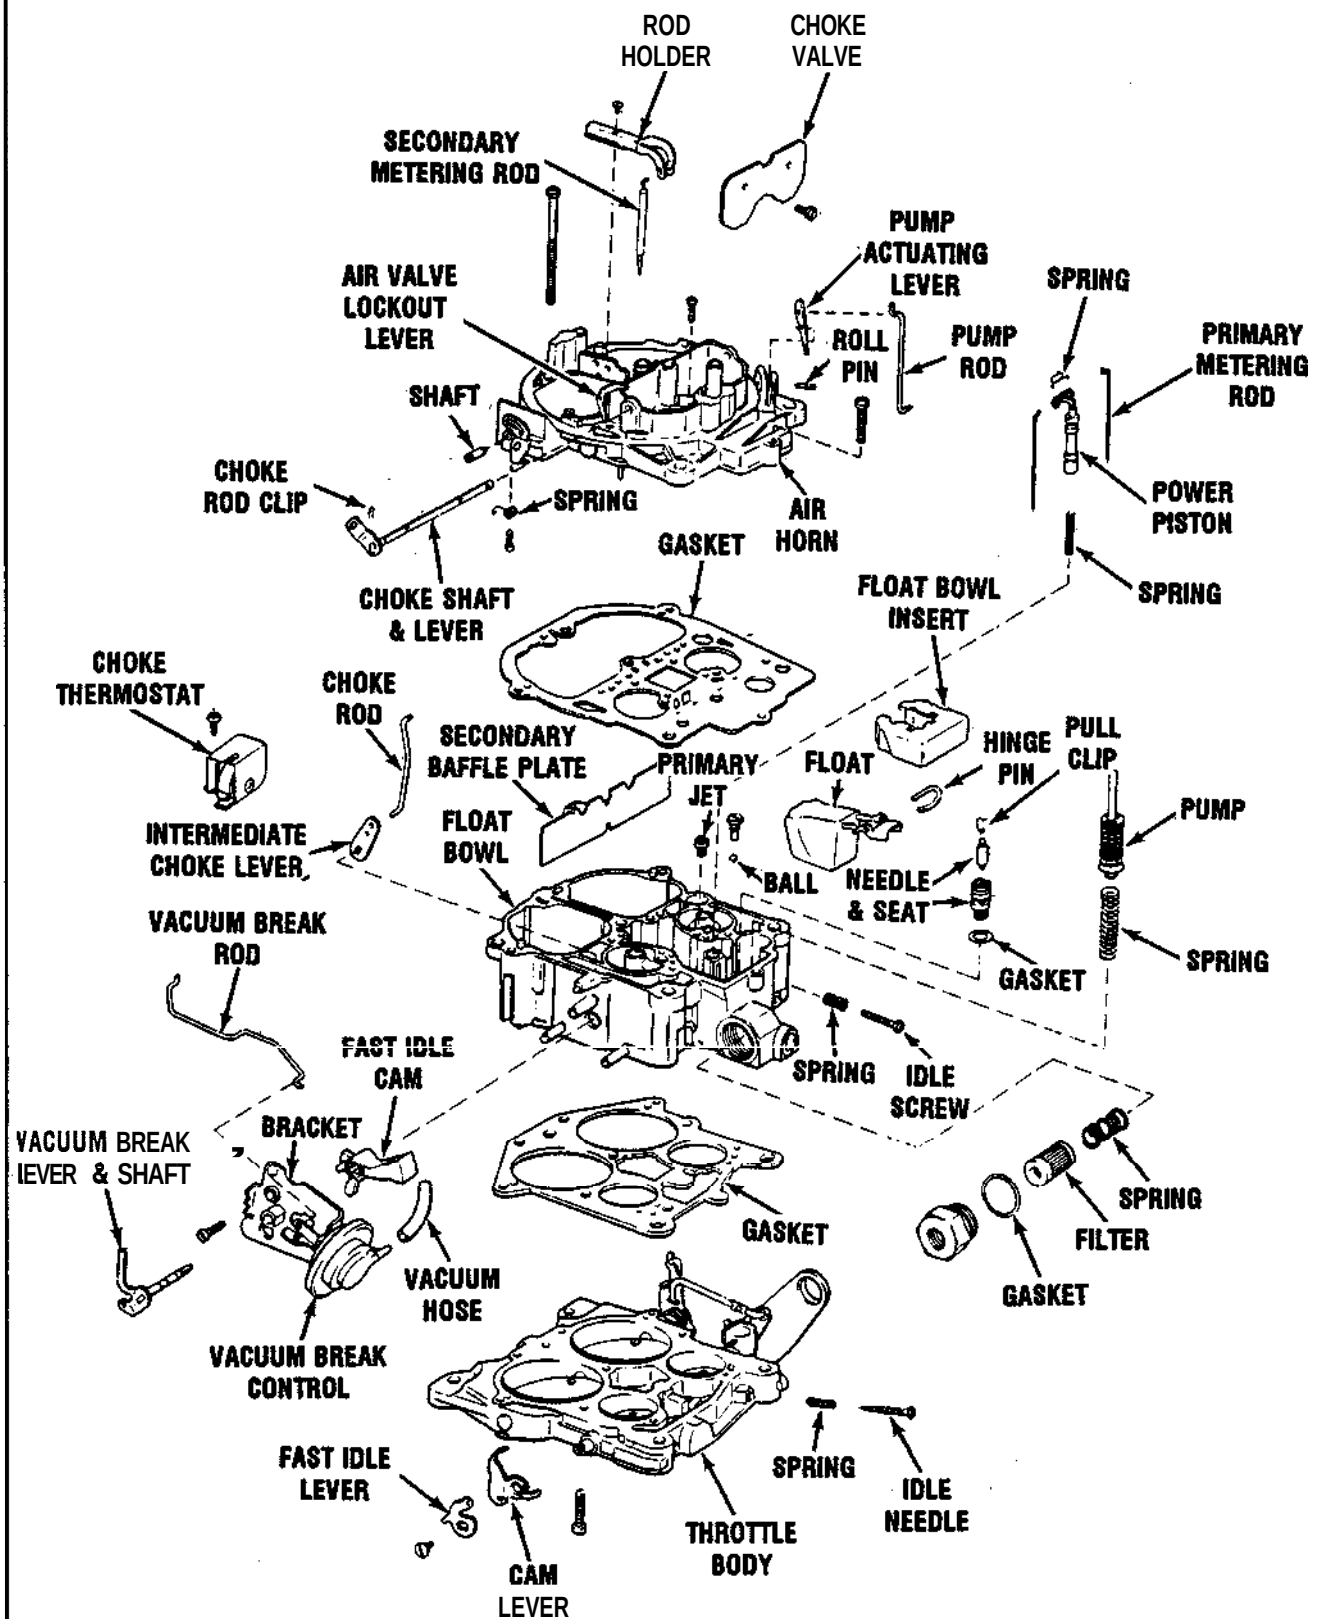

Fig. 22 Exploded view of a typical Rochester 4bbl carburetor
- 1) See Figures 22 thru 30
- 1) See Figures 22, and 31 thru 42